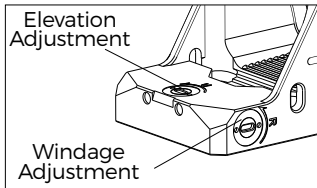

Figure 8
2. The Elevation adjustment is located on top of the tail section of the housing and the Windage adjustment is located on the right side of the housing. Adjustment can be performed by inserting the flat-tipped end of the included tool into the turret slot and rotating (See Figure 8).